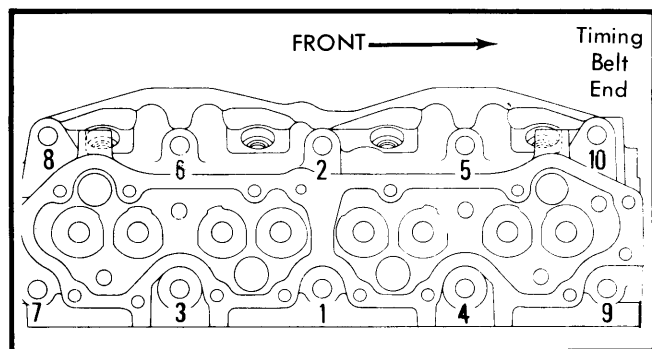

Fig. 1 Cylinder Head Tightening Sequence
2) Tighten bolts and nuts in sequence shown in Fig. 1 in two steps; first to about 29 ft. lbs. (4.0 mkg), and then to final torque of 69 ft. lbs. (9.5 mkg). Complete installation in reverse order of removal. See *Timing Belt Replacement*.